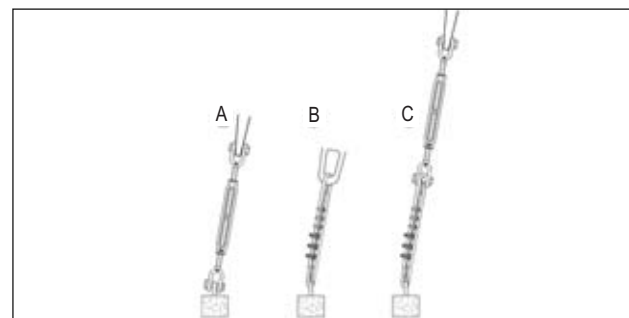
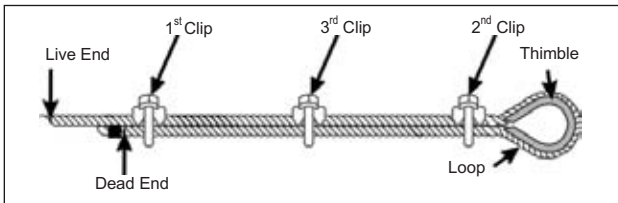
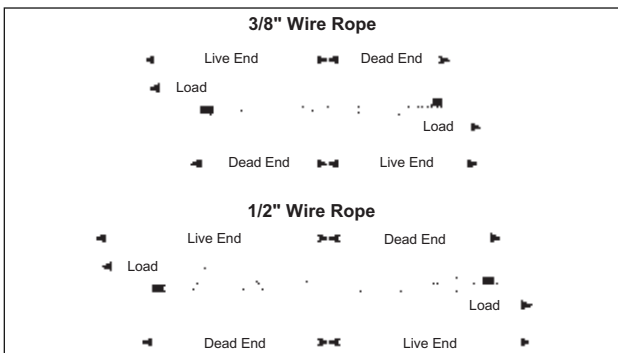

FIGURE 7-3
FIGURE 7-4
FIGURE 7-5
7.6.6. The installer is responsible for using appropriate and approved engineering practices when fastening wire rope. Refer to recommendations of wire-rope manufacturer and supplier, and follow accepted industry standards when selecting, using, attaching or connecting wire rope. (See FIGURE 7-3, FIGURE 7-4 and FIGURE 7-5.)
7.6.7. When connecting the end of a hold-down strap to the anchor, common methods (shown in FIGURE 7-3) are using a drop-forged turnbuckle (see A), using a looped wire rope (see B), or using a combination of both (see C).
7.6.11. Apply the first clip at a distance from the dead end of the wire rope that is equal to the largest width of the clip used. (See FIGURE 7-4.)
7.6.12. For each clip, apply a U-bolt over the dead end of the wire rope. (See FIGURE 7-4.) (Note: Live end rests in saddle.)
7.6.13. When two clips are required, apply the second clip as close to the loop or thimble as possible. (See FIGURE 7-4.)
7.6.14. When more than two clips are required, apply the second clip as close to the loop or thimble as possible, turn nuts on second clip firmly, but do not tighten initially. (See FIGURE 7-4.)
7.6.17. If forming a loop in the wire rope, a splice is required for connecting the two ends together. Standard rigging practice for splicing wire rope calls for using twice the number of clips recommended for a single-end termination. Use a minimum of four clips for a 3/8-inch wire rope and a minimum of six clips for a 1/2-inch wire rope. Place the rope ends parallel to each other and install the clips as shown in FIGURE 7-5.